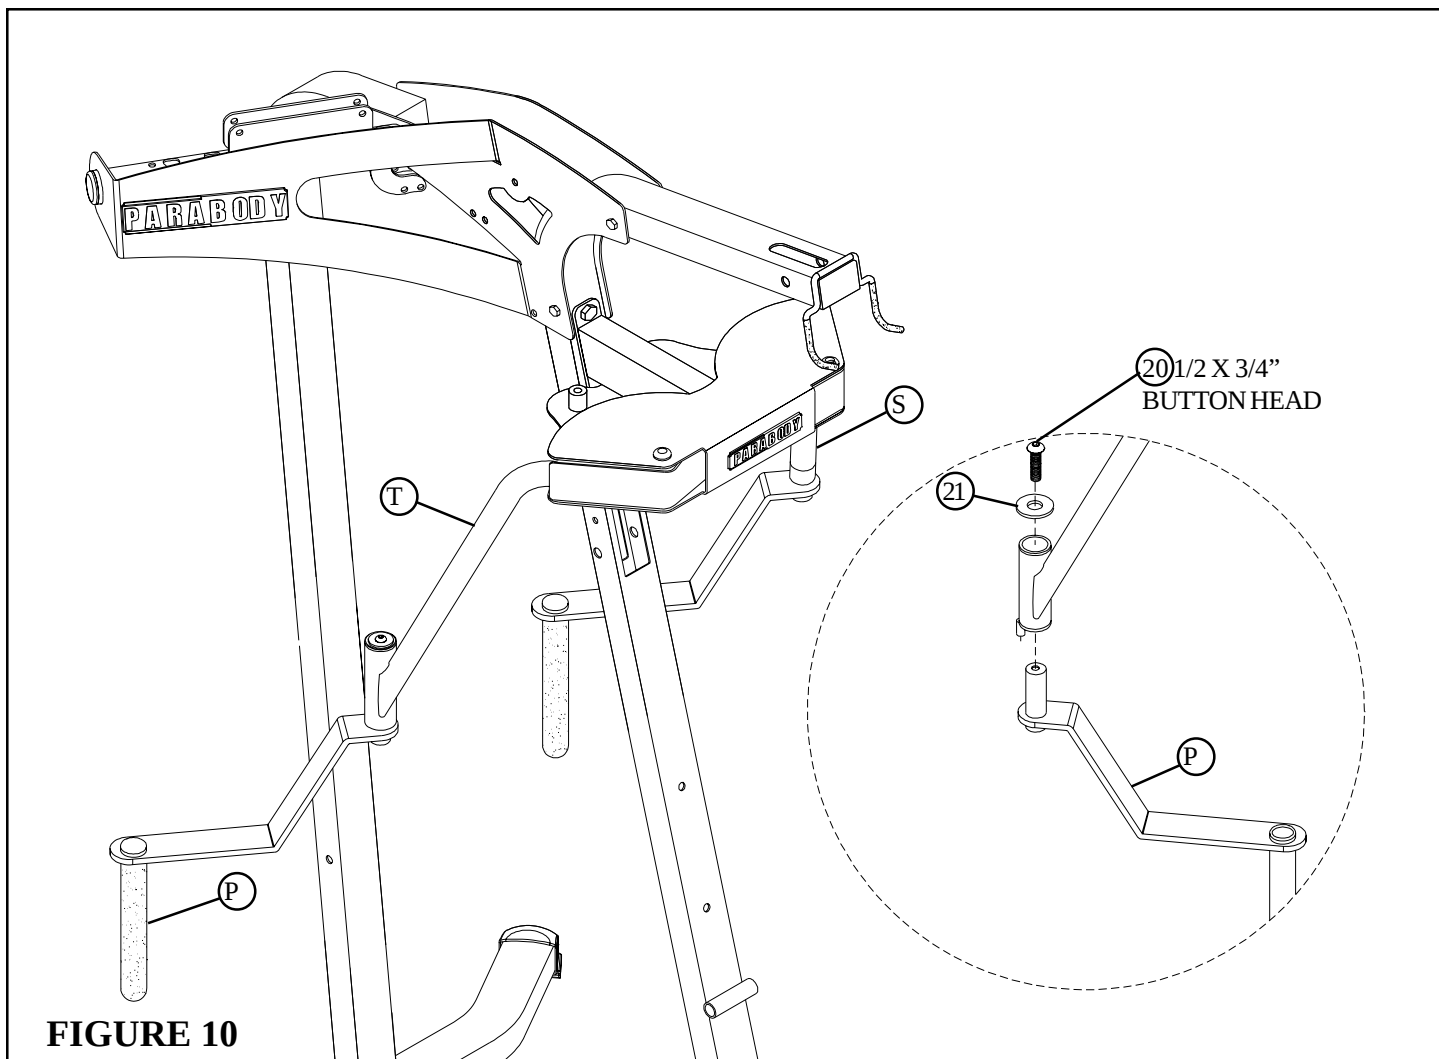

**FIGURE 9**
- Assemble the RIGHT PEC FLY ARM (T) and LEFT PEC FLY ARM (S) to the PEC FLY MOUNT (U) using two 1/2 X 92mm BOLTS (5), two 3" LONG SPACERS (35), four SHIM WASHERS (25), two 1/2" LOW HEIGHT LOCK NUTS (27) and four RH CAPS (45) as shown in FIGURE 9.